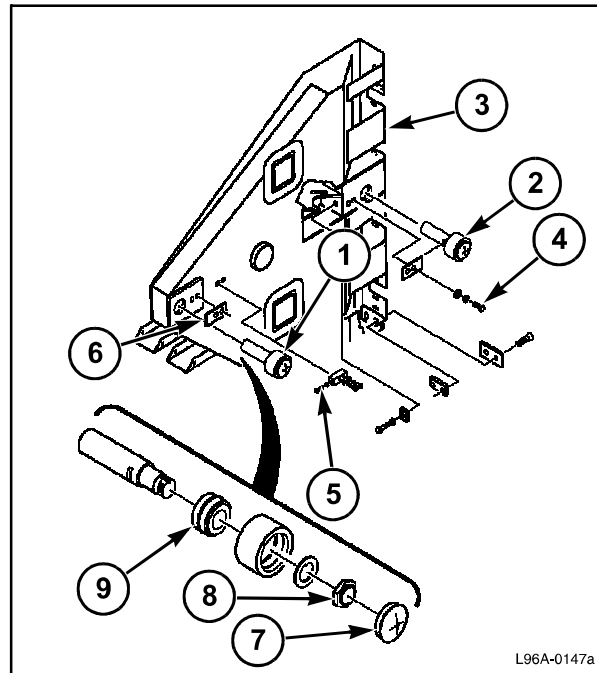

FIG. 92
FIG. 92: The front plunger rollers (1) and rear plunger rollers (2) can be removed from the plunger (3) from the side of the baler. Remove only one roller at a time, except when removing the plunger.